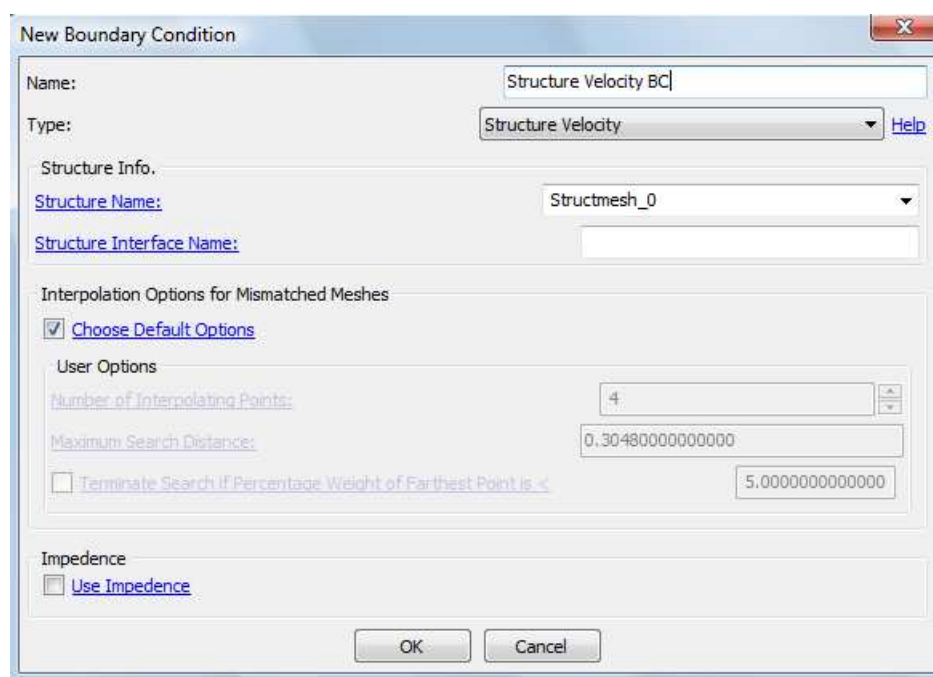

Figure 9.17: Edit structure velocity boundary condition window.
- Select **Structure Velocity** from the drop-down menu for 'Type'. The window in Figure 9.17 will appear.